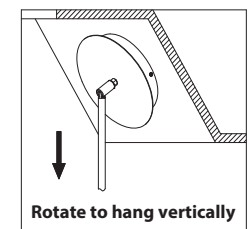

Fig. 3 Switch
4. Remove the canopy screws (C) and rubber gasket (D) from the ceiling plate.
5. Set color temperature at this stage. The fixture can switch between three color temperatures (3000k, 3500k, 4000k), which can be adjusted to your preference using the 3CCT switch (Fig. 3) mounted in the fixture.
WIRING FIXTURE (Fig. 2, Fig. 3)
9. Due to limited space within the canopy, shorten the cable as necessary to make the installation easier. Make sure to identify and label all the wiring properly before any trimming/shortening. (Fig. 3)
11. Connect the driver's input/output wires to junction box wires and 3CCT switch wires as shown in Fig. 2/ Fig. 3. Ensure all wire connectors (A), (B) are secure. Connect the fixture's ground wire to the ground in the junction box; this will be either a green wire or a bare copper wire. After wires are connected, tuck them carefully inside the junction box.